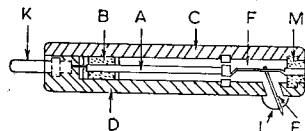

Fig. 1
The crystal cartridge (Fig. 1) contains a twister crystal (A), formed of two slabs of piezo-electric salt cemented together with a common electrode between them and a second electrode in contact with both outer surfaces. The electrodes are brought out to two pins (K) at the rear end of the cartridge. The pins connect by push-on sockets attached to the ends of a screened lead.